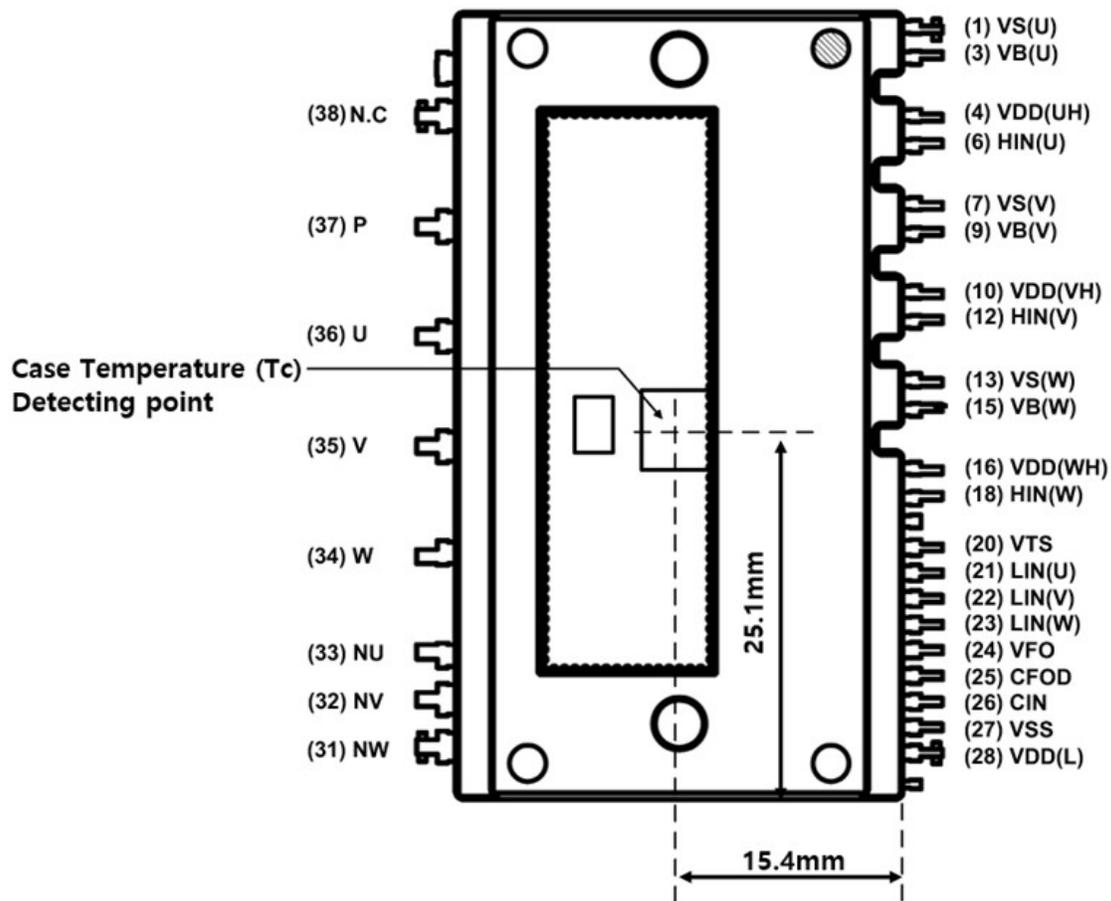

Figure 1. Pin Configuration – Top View
- For the measurement point of case temperature (Tc), please refer to Figure 1.